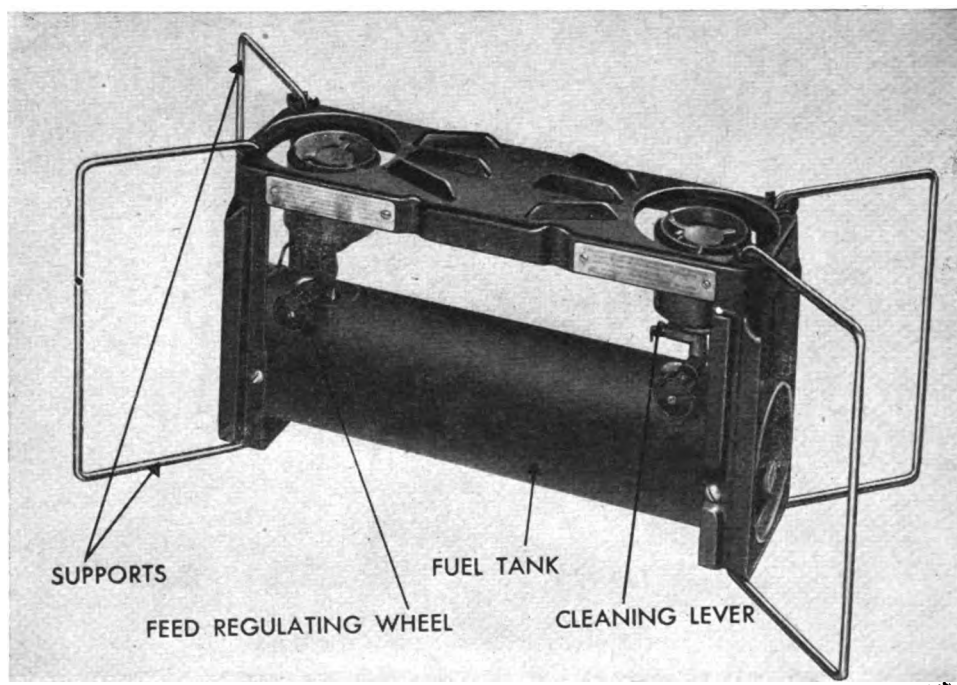

Figure 11. Stove, cooking, gasoline, M1942, two-burner (65-H-2882).
a. Gasoline cooking stove, M1942, two-burner (stock No. 65-H-2882), is substantially a double model of the M1941, one-burner. (See fig. 11.) The information and instructions given in section II above are also applicable to this stove.